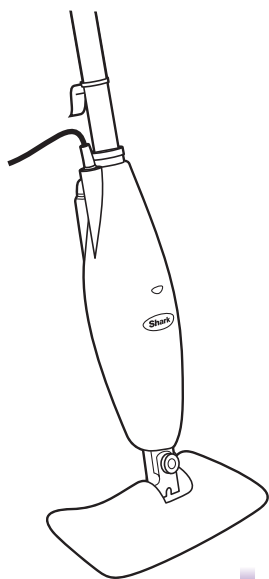

fig. 2
- 2 Carefully separate micro-fiber cleaning pad from steam mop, avoiding contact with the hot pad or dirt. (**fig. 2**)